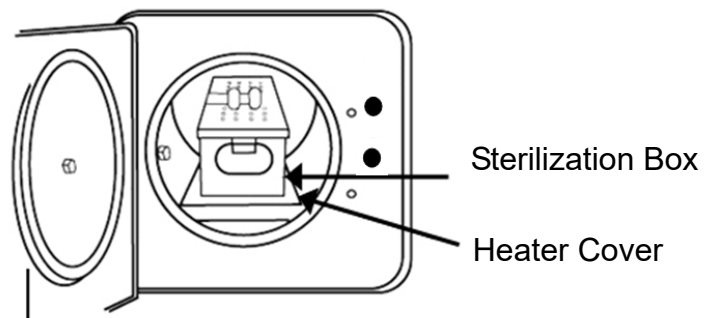

Figure 5
C. Install the Sterilization Box as Figure 5. (standard accessory)